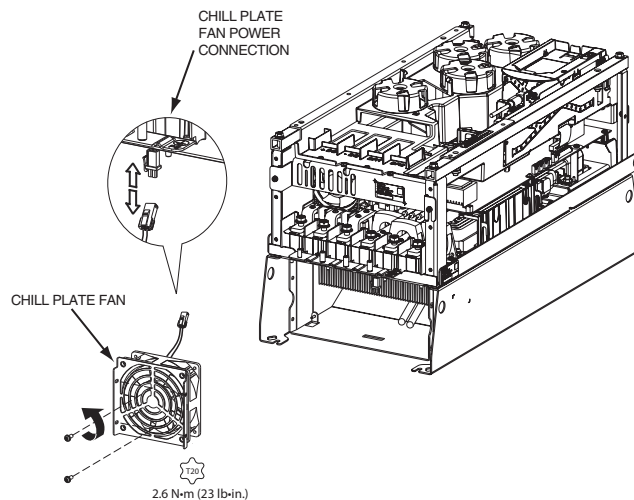

Fig. 23 — Chill Plate Fan, Frame 6
4. Remove and replace the chill plate fan. See Fig. 23.